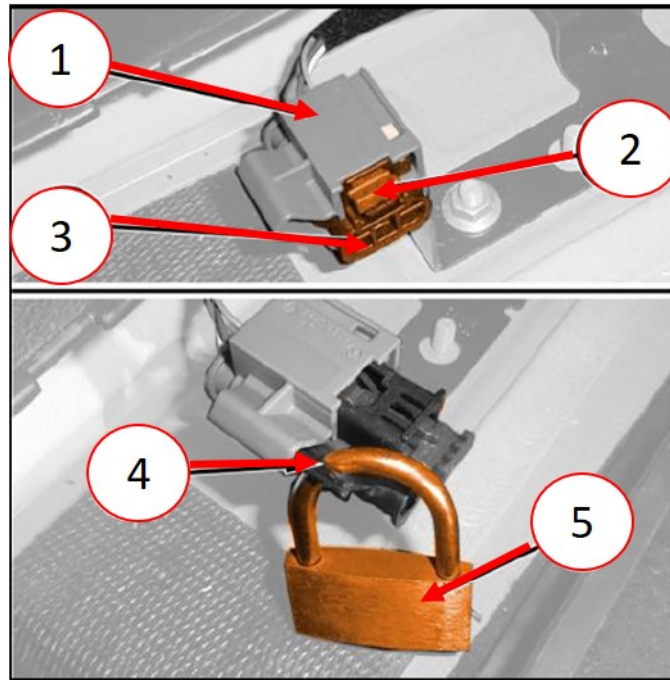

Fig. 4
- Extract the lock of the HVIL connector. Press and extract the contact slide to the end of its travel, for complete access to the service lockout loop (Fig. 4) .